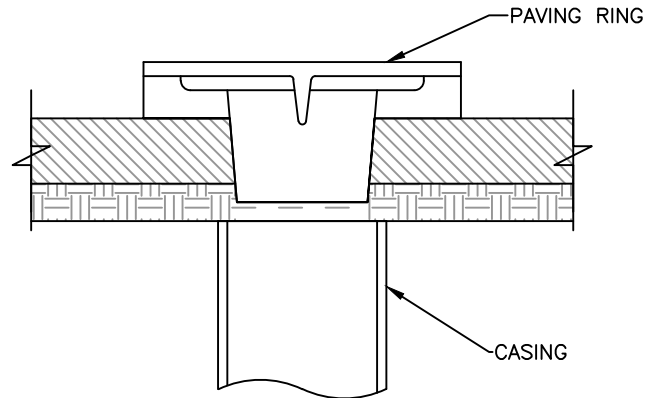

FIG. NO. 2
5. IMMEDIATELY AFTER MACHINE HAS PAVED OVER CASING, UNCOVER, AND REMOVE LID, THEN INSET PAVING RING INTO CASING AND PUSH EXCESS A.C. UNDER FLANGES OF PAVING RING. (FIG. NO. 2)